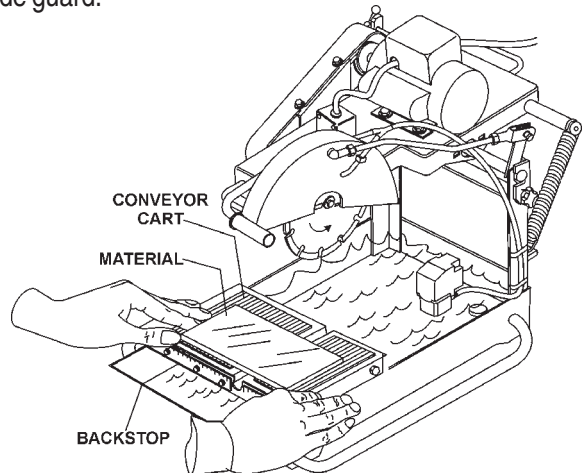

Figure 19. Material Placement
1. Place the material to be cut (Figure 19) on the conveyor cart against the backstop.